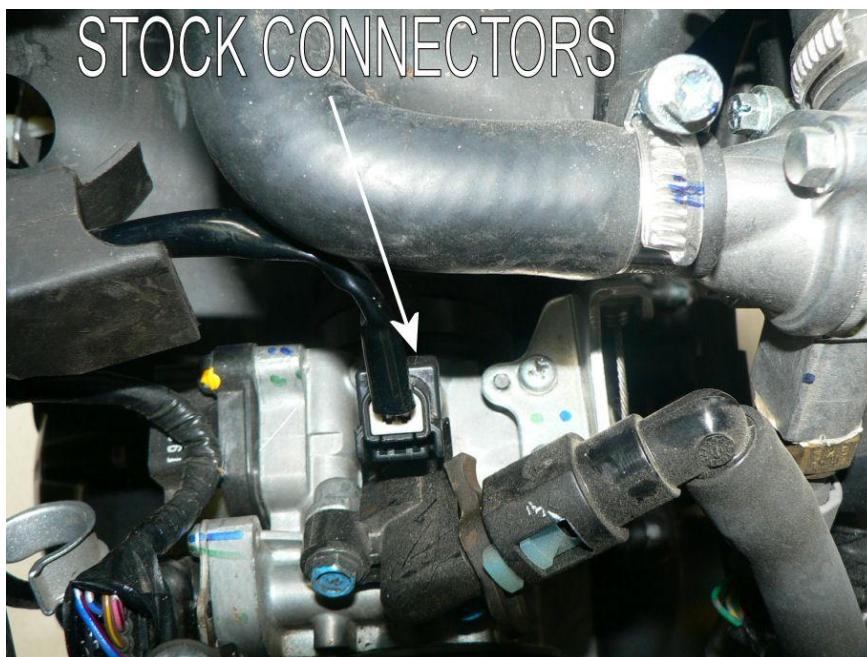

Fig.1
4. Locate and disconnect the black 2 pin connector placed under the fuel tank (**Fig.1**).